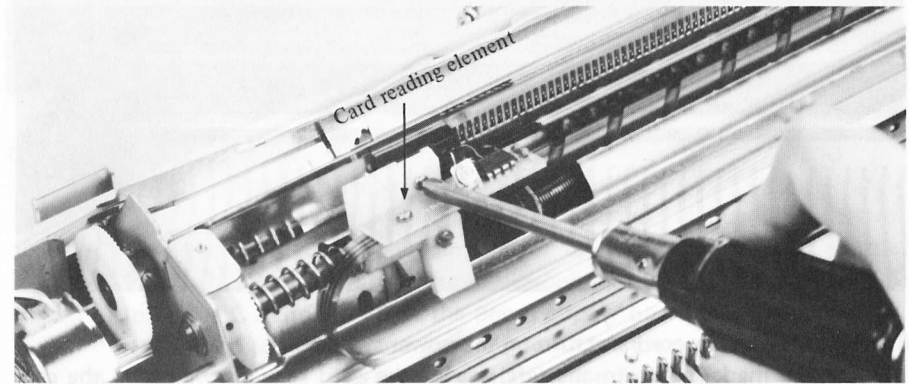

Fig. 59
6. Loosen the screw of the card reading element, the card reading element must move freely. (Fig. 59)